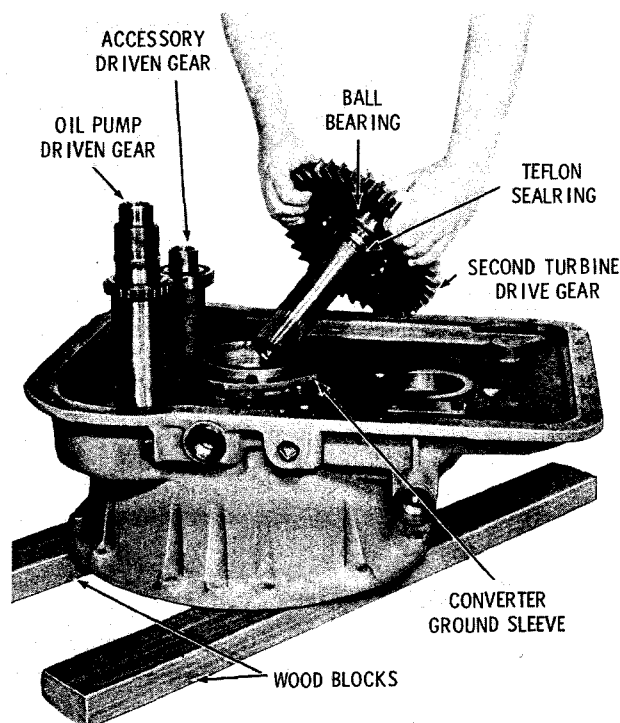

Fig. 7-28. Installing second turbine drive gear
(2) If bearings 16 and 19 (B, foldout 3) were removed from oil pump driven gear 17, install new bearings. Install bearing 16, snapping toward gear 17, and seat the bearing inner race against the hub shoulder. Install bearing 19 inner race and rollers, without race 20, and seat the inner race against the shoulder on the shaft of the gear.
(3) If ball bearing 25 was removed from second turbine drive gear 28, install a new bearing. Seat the bearing inner race against the shoulder on the shaft of the gear. Install Teflon sealring 24 into the groove in the shaft, and retain it with oil-soluble grease.
(4) Position the converter housing to rest on wood blocks, and install the assembled oil pump driven gear (and accessory driven gear) as shown in figure 7-28. Install the second turbine drive gear.